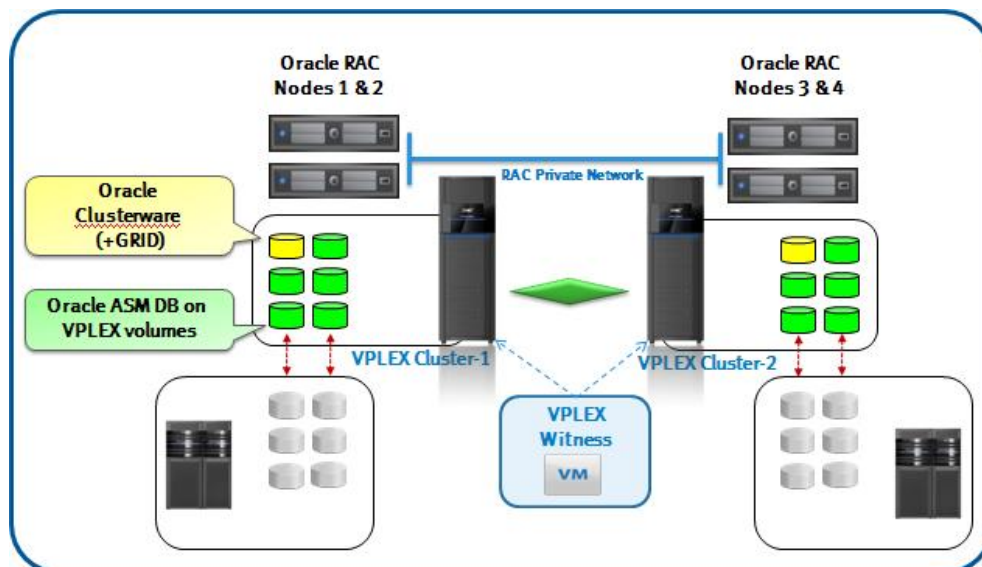

Figure 4. Oracle Extended RAC with VPLEX Metro
- **High Availability Infrastructure** — Reduces recovery time objective (RTO). High Availability provides near continuous uptime for critical applications, and automates the restart of an application once a failure has occurred, with as little human intervention as possible. An example of Oracle Extended RAC with VPLEX Metro is shown in Figure 4. This solution is the focus of this white paper.